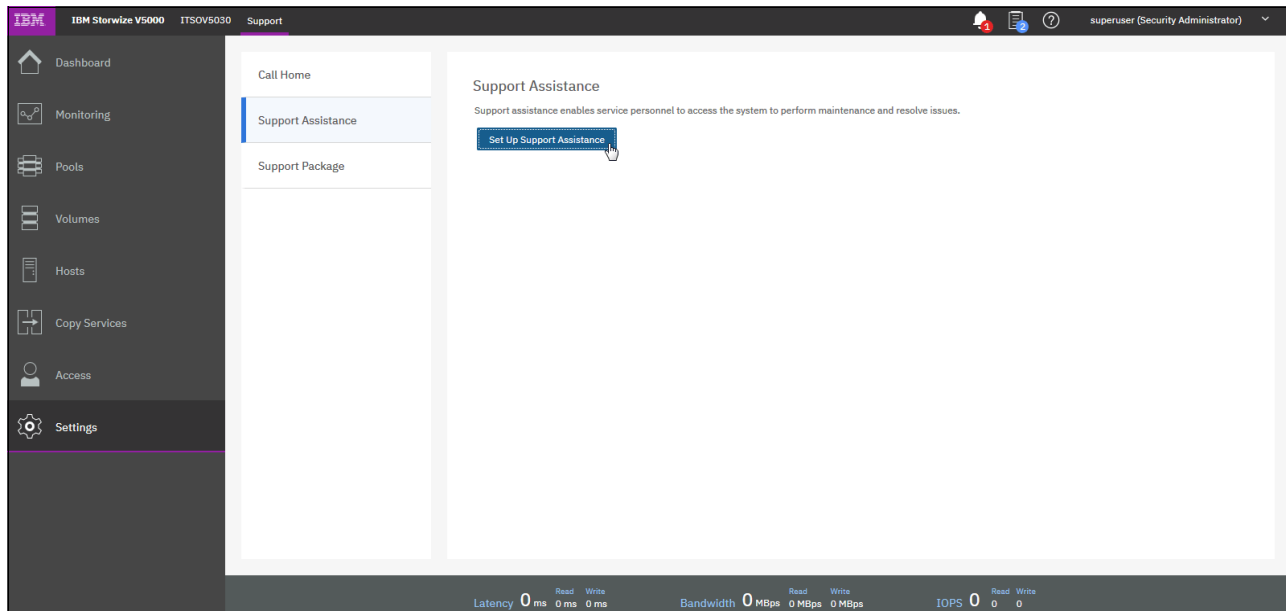

Figure 12-99 Support Assistance
1. In the management GUI, select **Settings** → **Support** → **Support Assistance** → **Set Up Support Assistance** (see Figure 12-99).